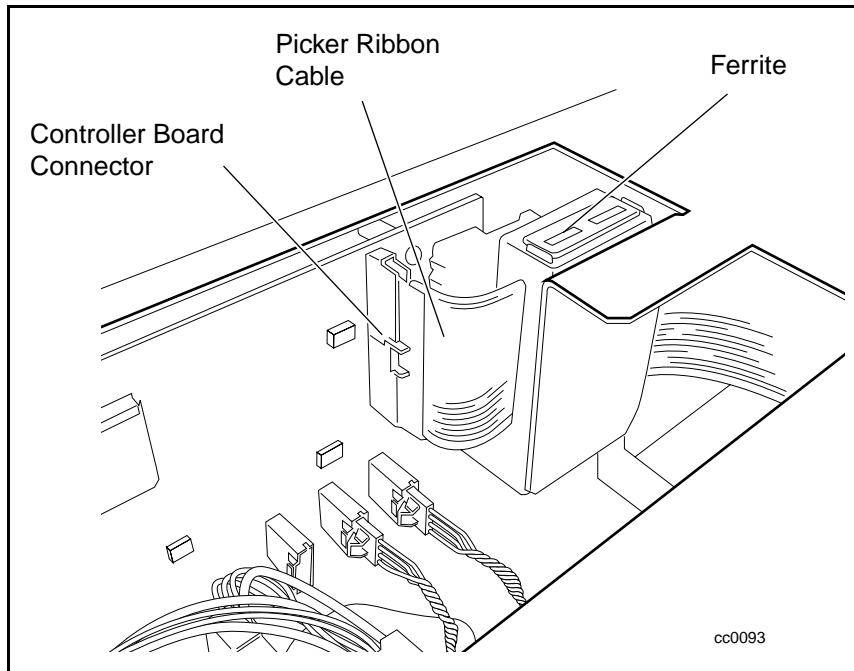

Figure 5-23. Disconnecting the picker ribbon cable
5. Disconnect the picker ribbon cable from connector J1 on the controller board (see Figure 5-23).